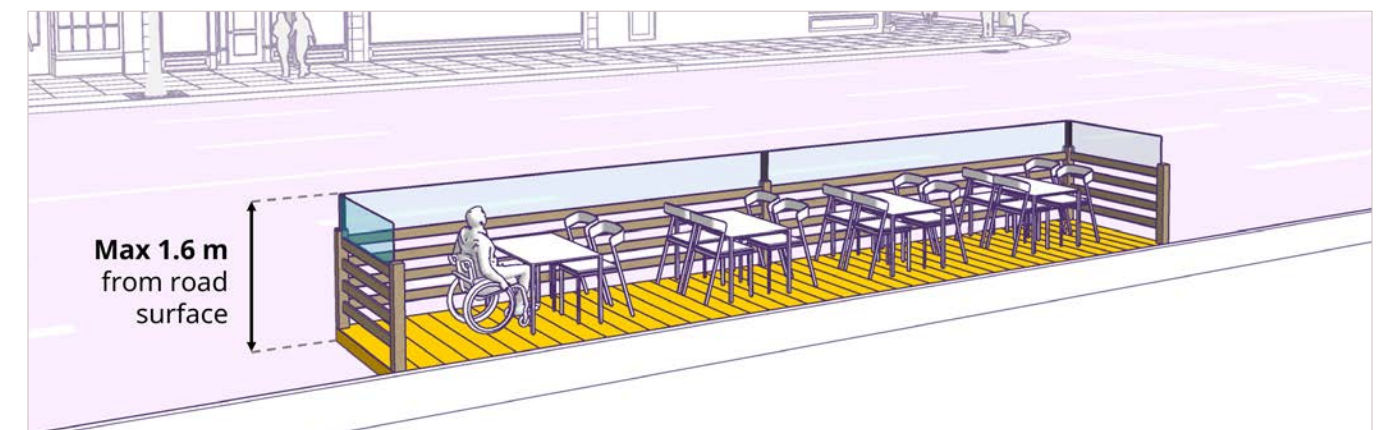

Figure 28: Windscreens
- The height of windscreens and the railing together must not exceed **1.6 m** from the road surface, and must not extend beyond the patio footprint (see *Figure 28*).